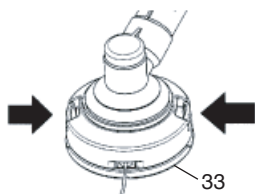

Fig. 29
- (1) Remove the case (33) by firmly pushing inward the locking tabs with your thumbs as shown in Fig. 29.